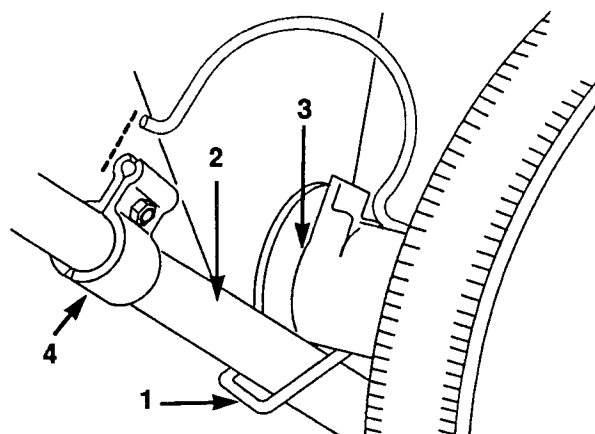

Figure 39
- B. Place the right-hand hold-down spring under the axle support and hook it under the mower handle (Fig. 39).
- C. Rotate the hold-down spring over the axle support and toward the clamp (Fig. 39). Now move the clamp so its back edge lines up with the end of the hold-down spring and secure the clamp in place by tightening the lock nut.